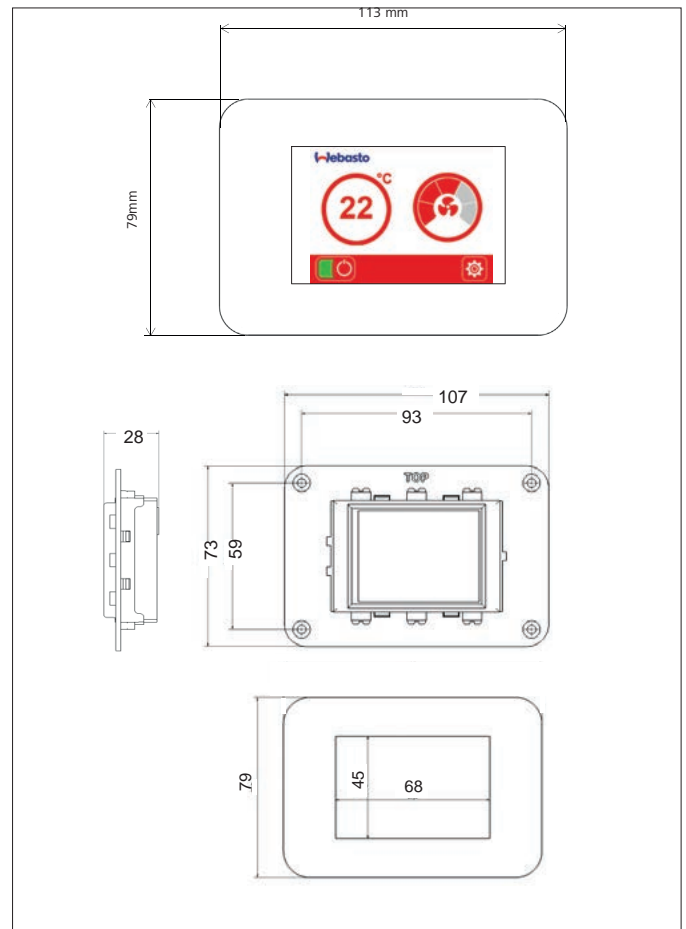

Fig.11 InstallationBlueCool MyTouch
- ▶ Make the cutout for the control element in the required position. For cutout dimensions see Fig.11.